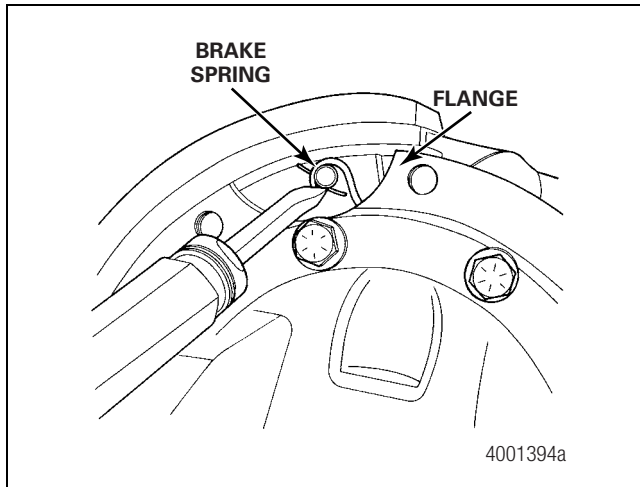

Figure 3.24
6. Remove the spring from the brake shoes. Figure 3.24.